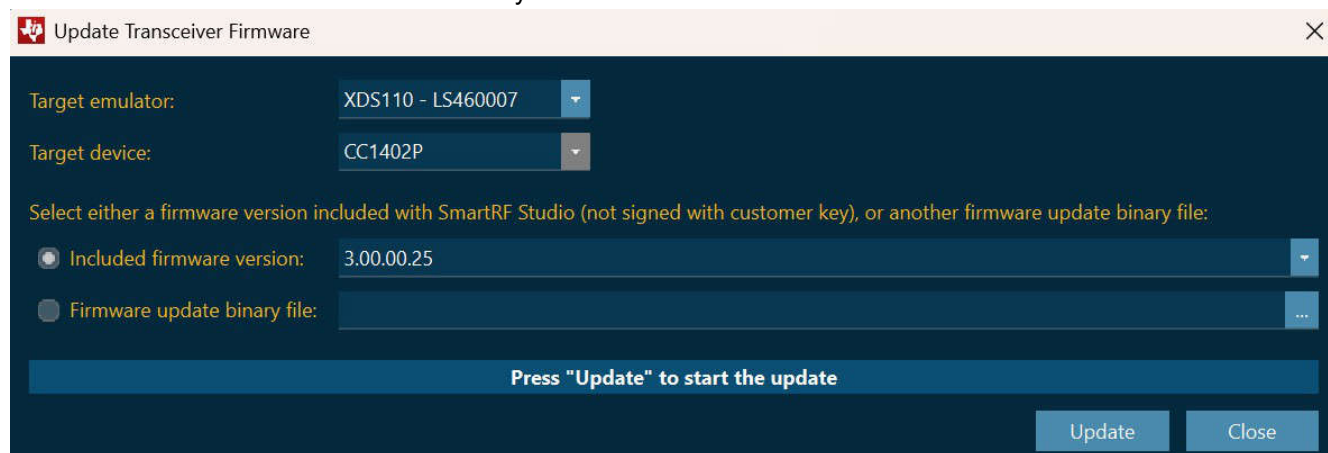

Figure 3-6. Included Firmware Version
5. SmartRF Studio for CC1402P includes a firmware version and is shown under "Included firmware version" (Figure 3-6). If the CC1402P needs to be updated with a different firmware, select "Firmware update binary file" and select the location of the binary file.